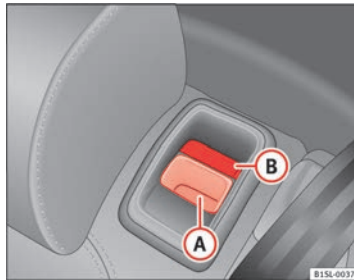

Fig. 67 Rear seat: unlock button (A); red marking (B)
- Pull the unlock switch ⇒ Fig. 67 (A) forwards whilst simultaneously lifting the rear seat backrest.
- The rear seat backrest is not engaged when the red marking of the button (B) is visible.